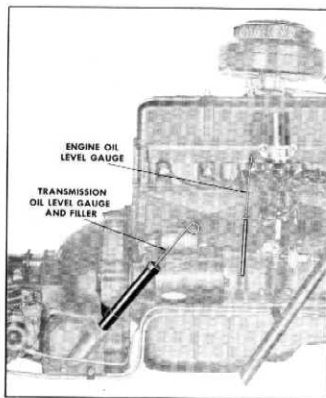

Fig. 21—Location of Dip Sticks
The transmission oil level should be checked every 1000 miles. Oil should be added only when the level gets down to the "Add 1 Quart" mark on the dip stick. The oil level dip stick is located in the engine compartment on the right side just opposite the starter (fig. 21). In order to check oil level accurately, the engine should be idled with the transmission warm and the control lever in neutral (N) position.